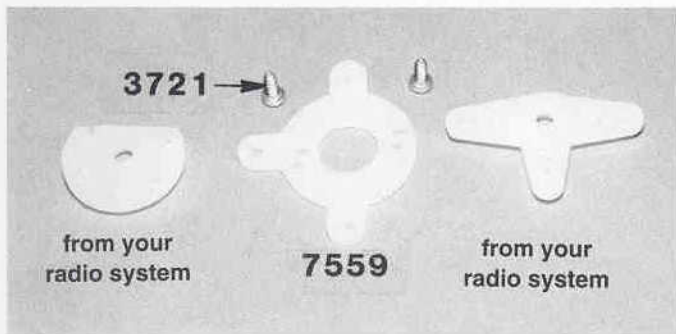

Fig. 224
□ **Figs. 224 & 225** Open bag #7-15 and remove the #7559 special plastic servo horn adapter and two #3721 2-56 self tapping screws. Fig. 224 shows both a round and a "+" style stock servo horn as an example. **Note:** The photo shows the removal of one side of the servo horn to clear the brake locking collar. Depending upon your servo horn, you may have to trim away more of the servo horn to clear the throttle pivot. You can determine this after you have test fitted the throttle pivot to the servo horn adapter, figs. 227 & 228.